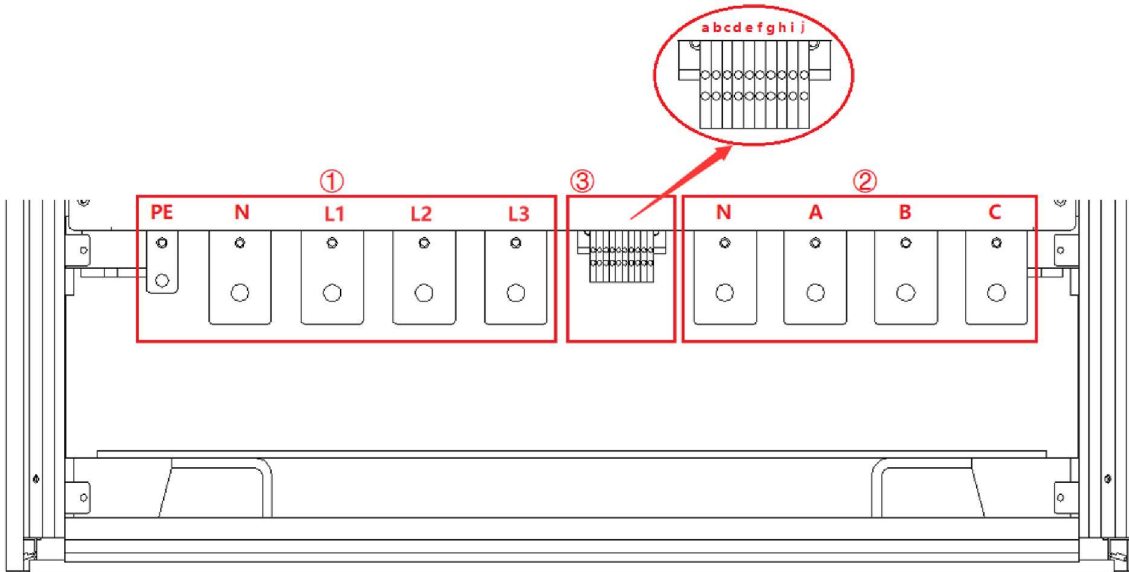

Figure 1-17
The External emergency stop interface is located at the internal wiring layer ③: c, d (Figure 1-17).